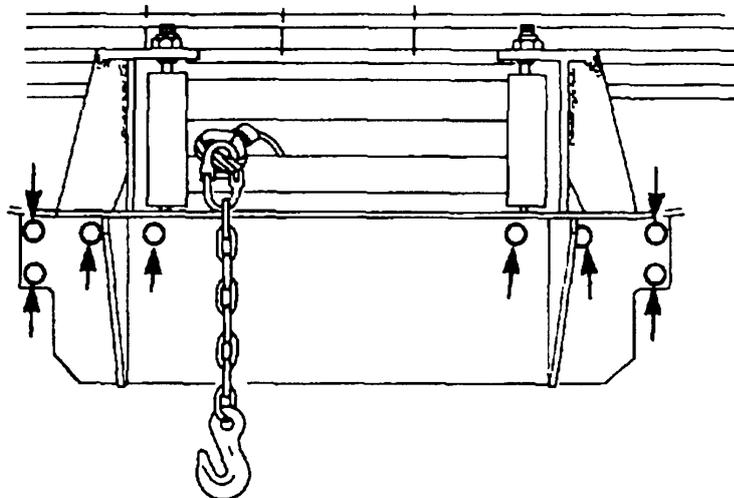

Figure 238 Front Fairlead Removal
- a. Remove the nuts and washers from the mounting bolts (Figure 238).